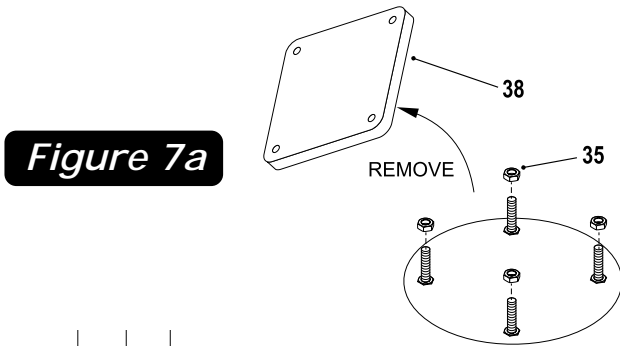

Figure 7a
9. Remove the four hex nuts (#35) securing anchor plate (#38) to anchor bolt (#39) and remove anchor plate (#38) and discard. Thread nuts (#35) back onto anchor bolts. See Figure 7a.